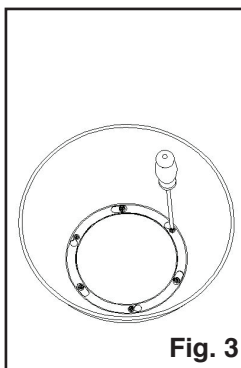

Fig. 3
3. Retighten the raised screws. Don't overtighten or damage the keyholes or reflector, Please refer to Figure 3.